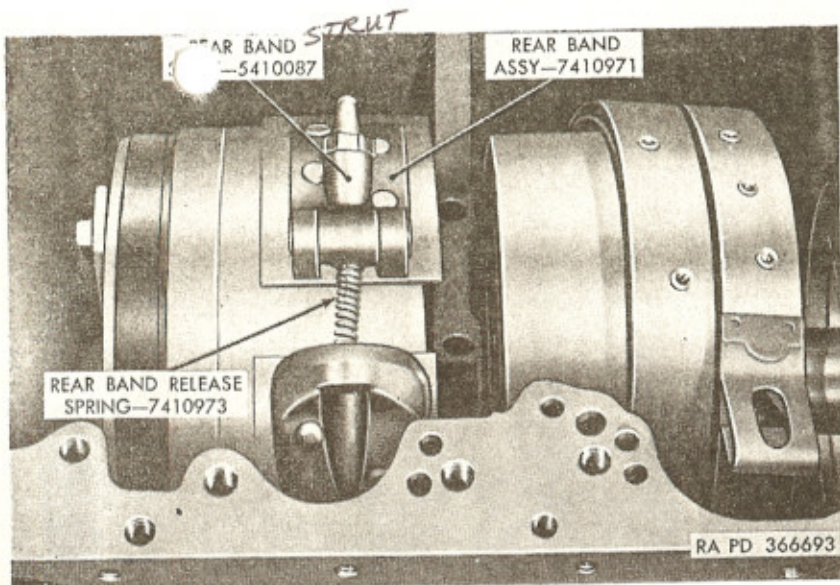

Figure 186. Rear band release spring installed.
f. Install rear band on rear drum so anchor end of band will rest on adjusting stop screw. Install rear band release spring (fig. 186) in recess at one end of rear band and over guide pin on rear band strut screw.